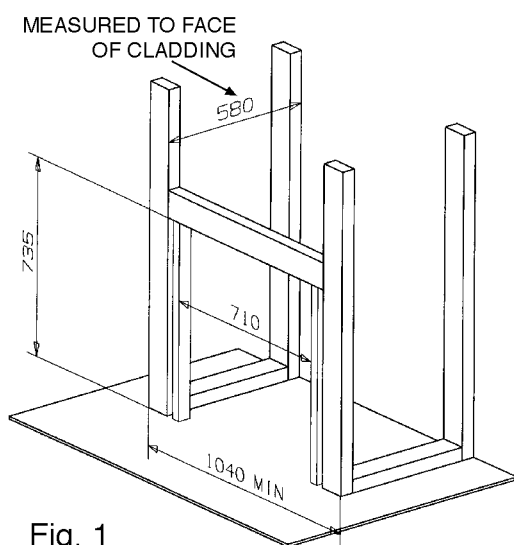

Fig. 1
3. *Frame up the enclosure as shown in Fig. 1. The frame should provide a recess 710mm wide and at least 580mm deep (measured from the face of the cladding material or from any tiles etc. that may be fixed to the cladding material). The overall width of the frame must be not less than 1040mm to accommodate the fascia width and to ensure a safe clearance to any combustible material should there be a room side-wall abutting the enclosure. The opening must have two timber uprights spaced 710mm (between) at the front. The bearer rails on the base of the outer steel cabinet will sit directly on the floor. No insulation is needed on top of the floor in the recess. (See Figs. 1 & 2).*